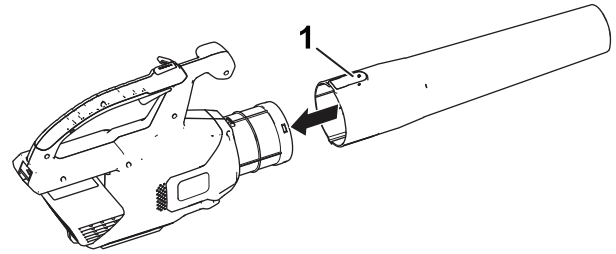

Figure 2
1. Slide the blower tube onto the blower housing. You may need to press down on the tab for the blower tube to lock into place (Figure 2).